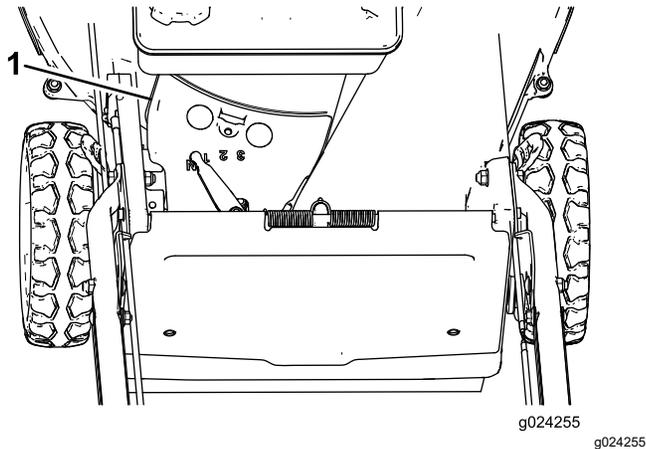

Figure 35
3. Remove the belt cover (Figure 35) from the mower housing.